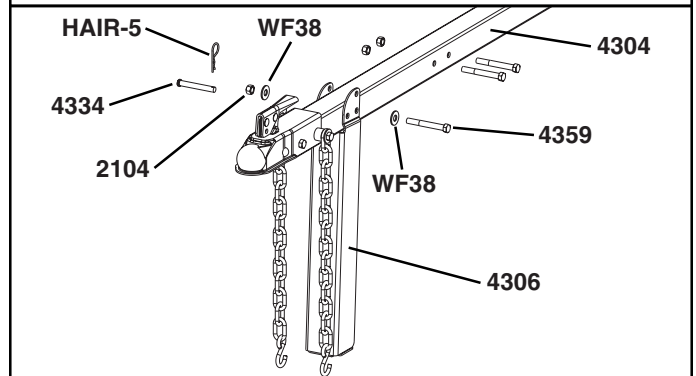

Figure 2a
5. Next, attach kickstand (4306) to tongue (4304) using one 3/8-16 x 3" bolt (4359), two 3/8" flat washers (WF38), one 3/8-16 bi-way locknut (2104), one 3/8" x 2.75" pin (4334) and one hair clip (HAIR-5). Attach the kickstand to the tongue so that it will support the weight of the log splitter as you assemble the rest of the pieces. **DO NOT OVERTIGHTEN - MUST SWING FREELY.** See Figure 2a & 2c.